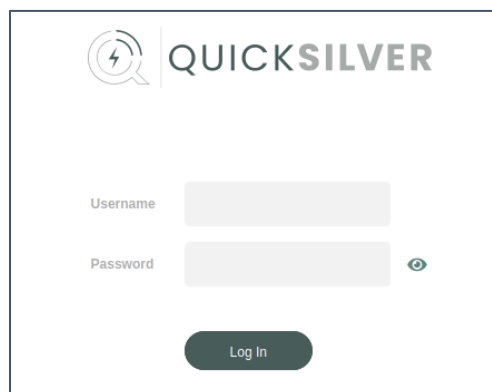

Figure 5: Quicksilver Log-in Page
6. Sign in to the website with the default username “admin” and default password “Password!” when prompted, as shown in **Figure 5**.